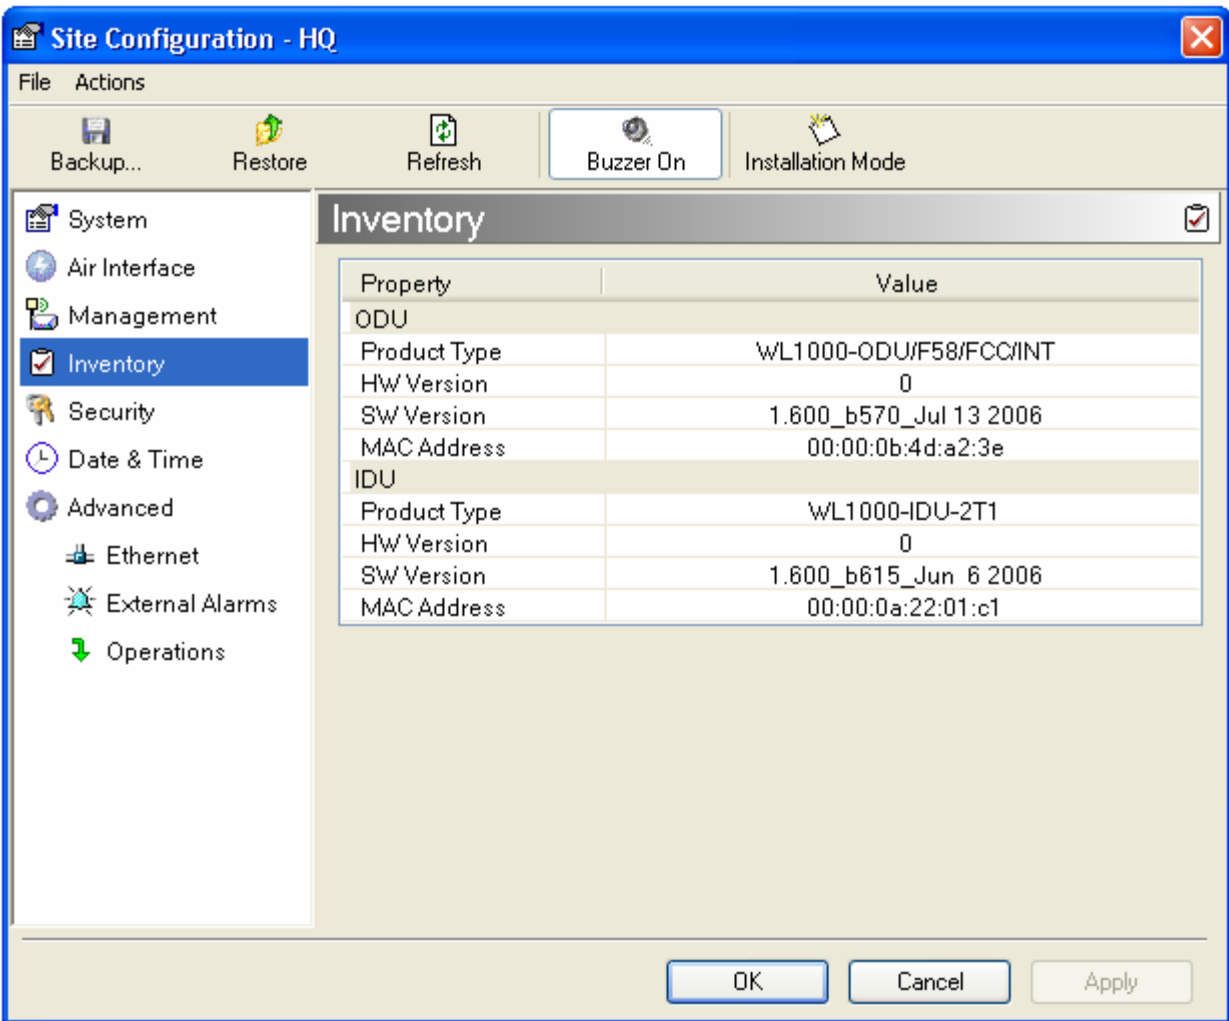

Figure 4-19. Inventory Screen
3. Select Inventory (*Figure 4-19*).